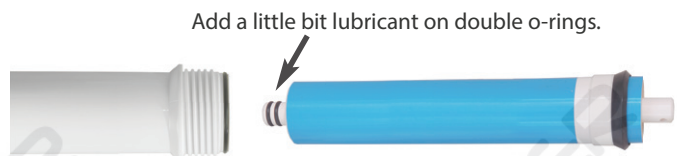

Fig. 14B
- 4) **Important!** Make sure the "double-ring" end of the membrane goes into the housing first as shown in **Fig. 14B**. The membrane cannot filter water if it's inserted in the **WRONG** direction!